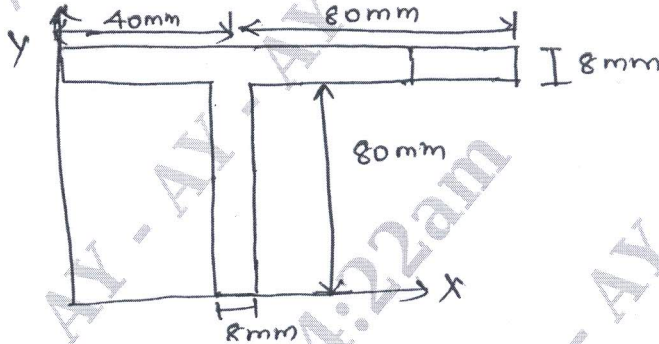

Fig. Q2 (b)
b. Find the maximum normal stress due to bending for the section shown in Fig. Q2 (b)  $M_x = 1500 \text{ N.m}$ ,  $M_y = 0$  (10 Marks)